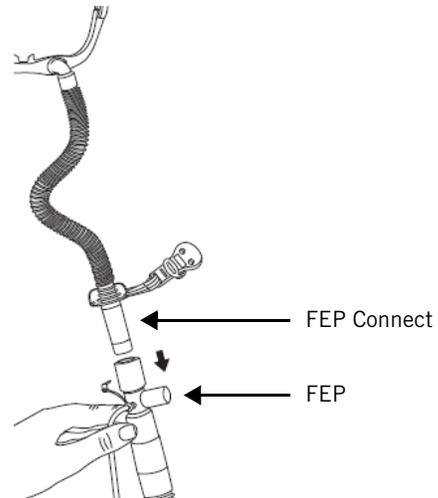

Figure 7-1: High flow nasal cannula using the FEP Connect
Use either the AC611 with FEP Connector (Figure 7-1) or the AC611 22 mm (Figure 7-2), which connects directly to the patient circuit.
3. Install a Philips-approved nasal cannula (Figure 7-1 and Figure 7-2 above) or a high flow tracheostomy interface on the patient circuit.